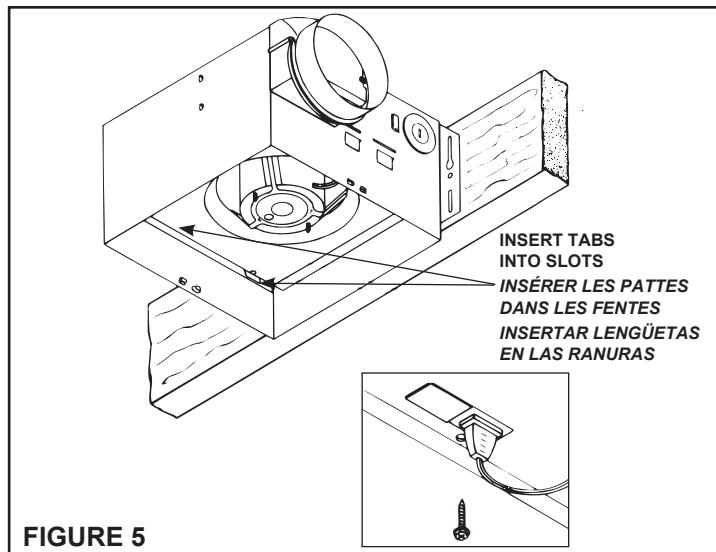

FIGURE 5
4. Refer to Figure 5. Insert motor plug into junction box receptacle.